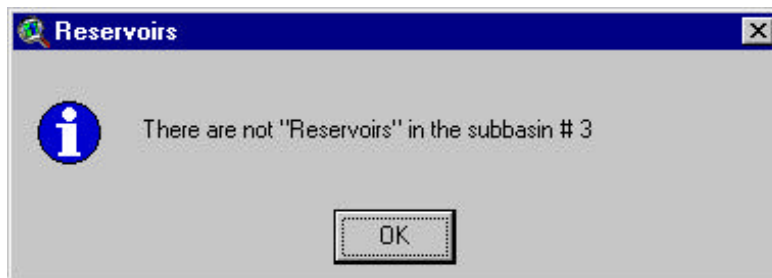

Figure 4.31
- ii. If the mouse cursor was located over a subbasin with no reservoir when right clicked, a message box will notify the user (Figure 4.31).